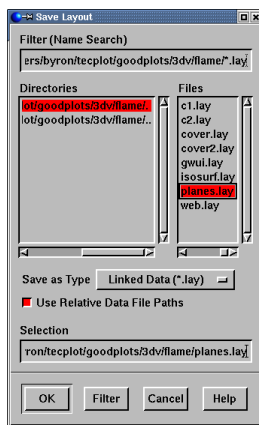

Figure 5-11. The Save Layout dialog in Motif, showing the Linked Data (*.lay) option.
2. Choose “Linked Data (*.lay)” using the File of type drop-down, as shown in Figure 5-11.